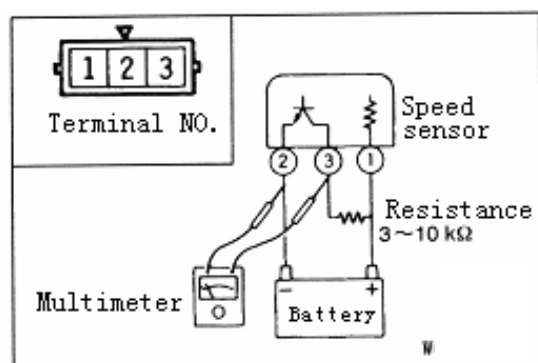

图 20-70
①Raise the vehicle.;
②Connecting the terminals by the resistance (value $3 \sim 10 \text{ k}\Omega$) as Fig 20-70 after Removal the connector of speed sensor;
③When the front wheel circumgyrating, measure the volt value variety from terminal NO. 2 to NO. 3 by multimeter. (four pulses every circle).